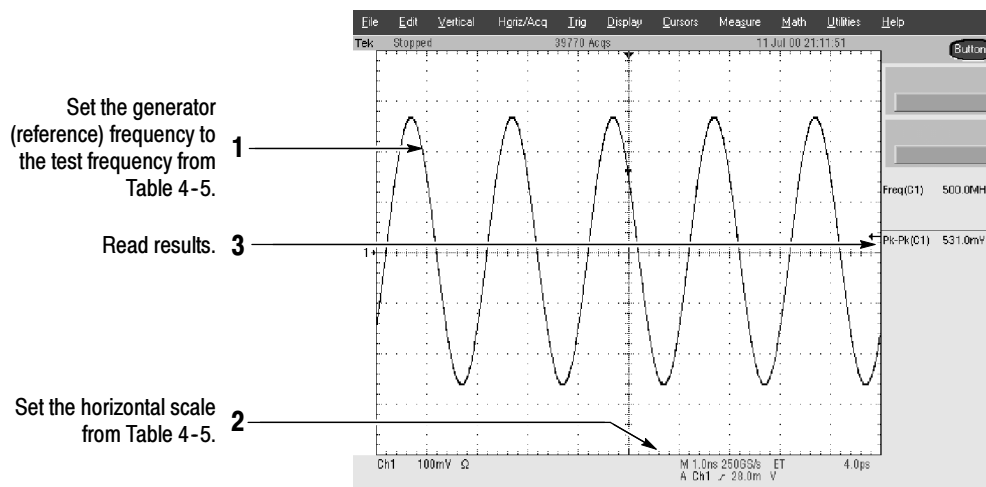

Figure 4-15: Measurement of analog bandwidth
- Set the frequency of the generator, as shown on screen, to the test frequency in Table 4-5 that corresponds to the vertical scale set in substep c. See Figure 4-15.
- Read the results at the CHx Pk-Pk readout, which will automatically measure the amplitude of the test signal. See Figure 4-15.